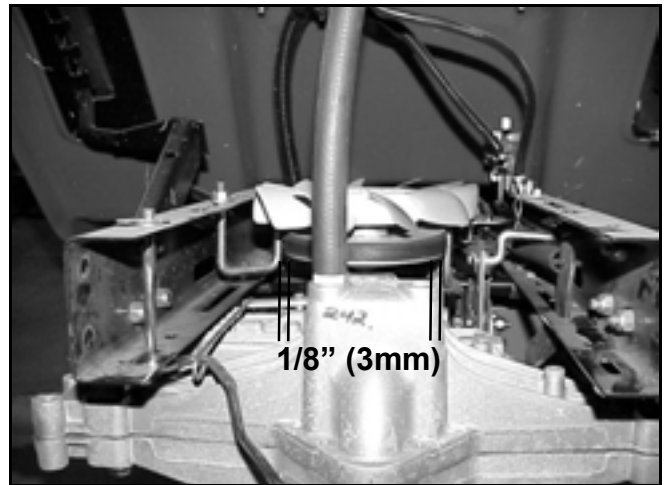

Figure 118
12. Adjust and tighten both the right and left transaxle belt guides. Make sure they are adjusted to within 1/8" (3mm) of the transaxle pulley (Figure 118).